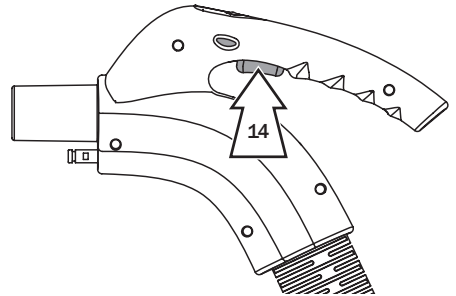

fig. 15
- Operate the steam lever 14 (fig. 15) on the handle, then press button 9 (fig. 12) to activate suction.
- Operate the steam lever 14 (fig. 15) on the handle.
- If needed, operate lever 14 (fig. 15) on the handle to release steam.
- Operate steam lever 14 (fig. 15) on the handle.